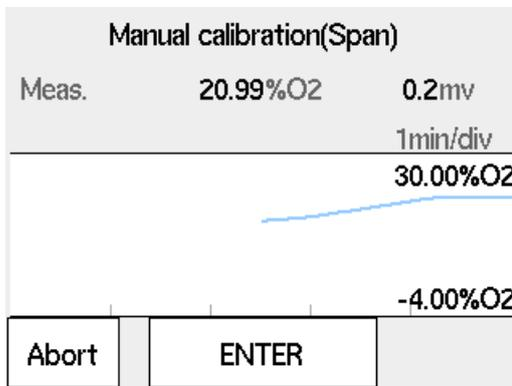

Figure 6.18 Trend during Span gas calib.
- (4) Selecting "Start calibration" displays the trend graph of the oxygen concentration being measured (Figure 6.18) on screen. Wait for the reading to stabilize around 21% by monitoring the graph and the sensor electromotive force. At this point, calibration is not yet executed. It is acceptable for the reading to deviate from 21%.